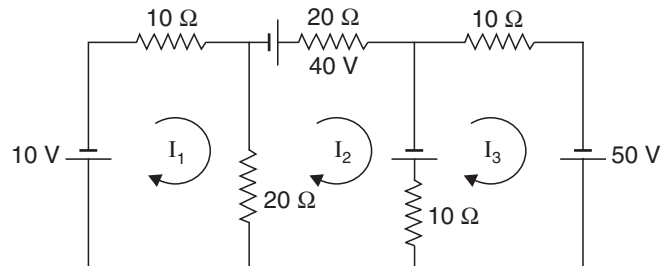

Fig. 67
29. Find I_1 , I_2 and I_3 in the network shown in Fig. 67, using loop-current method. [Ans. 1 A, 2 A, 3 A]